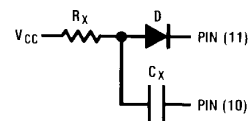

FIGURE 2
- If C_X is an electrolytic capacitor a switching diode is often required for standard TTL one-shots to prevent high inverse leakage current (*Figure 2*).